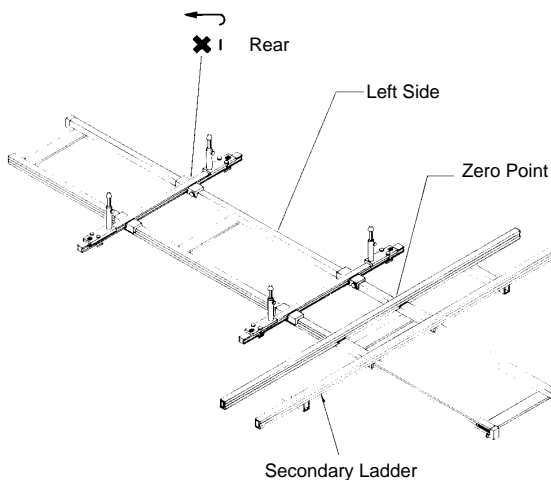

Figure 5
12. Position secondary ladder on main ladder with scribe line over zero point of tape. (See Figure 5.)